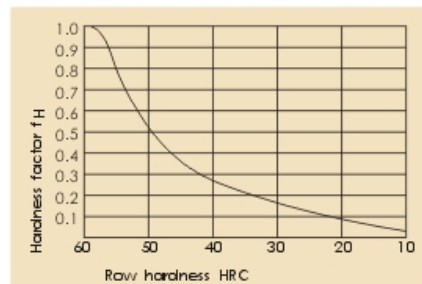

Fig. 8 Raceway hardness factor
- fH = Hardness factor (see fig. 8)
The load ratings for the linear bearing are calculated with the raceway hardness equal or higher than 58 HRC. When the raceway hardness is reduced, the load rating of the bearing is also reduced and must be corrected using the the accompanying chart (Fig.8).